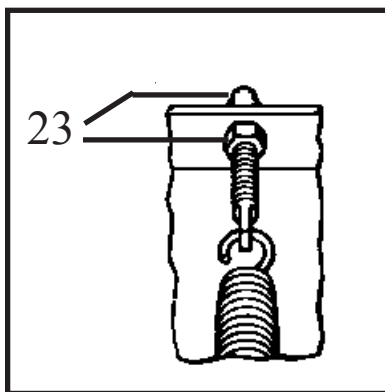

Figure 1
- a. Liberally coat Pivot Pins (22) with chassis lubricant.
- b. Attach Sector (29) to Moldboard (1) with Pivot Pins (22) and insert Hair Pin Cotter. Grease Pivot Pins using grease fittings.
- c. Attach Eye Bolts (23) to Moldboard (1) and trip Springs (24) to Sector (29), making certain locknuts (23) are positioned as shown in Figure 1.
- d. Make certain each Eye Bolt (23) is in a vertical position as shown in figure 1 so that the Eye Bolt (23) and Trip Spring (24) hinge properly when moldboard trips.